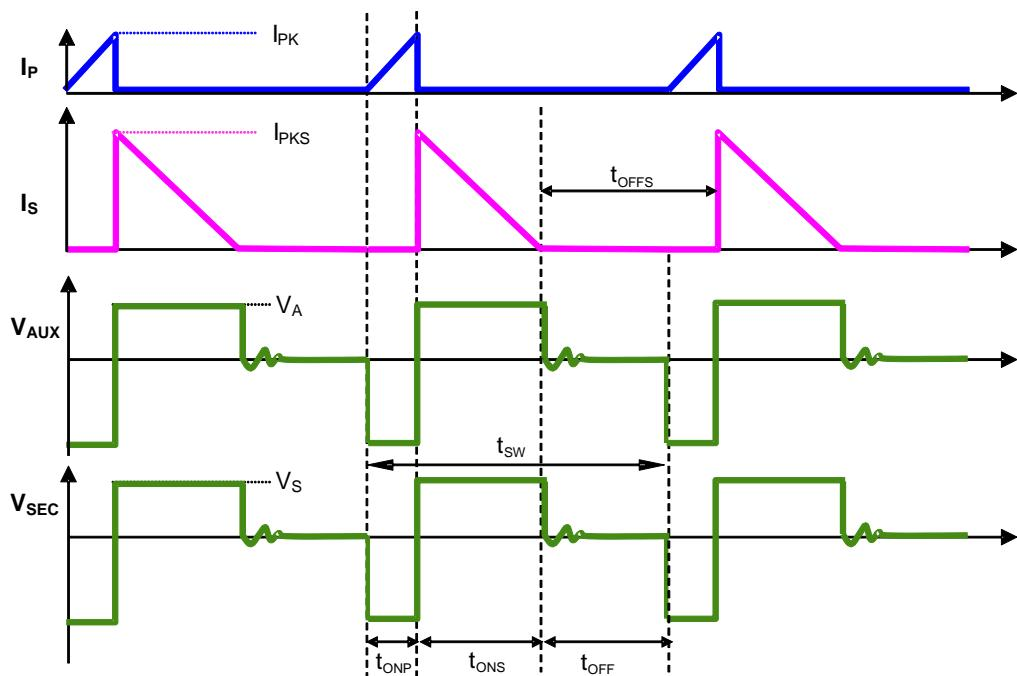

Figure 2 The Operation Waveform of Flyback PSR System
Figure 2 shows the typical waveforms which demonstrate the basic operating principle of the AP3983R application. And the parameters are defined as the following.
As illustrated in Figure 2, when the current ip(t) rises up to I_{PK}, the switch Q1 turns off. The constant peak current is given by:
The AP3983R can work in constant-current (CC) mode. Figure 2 shows the secondary current waveforms.